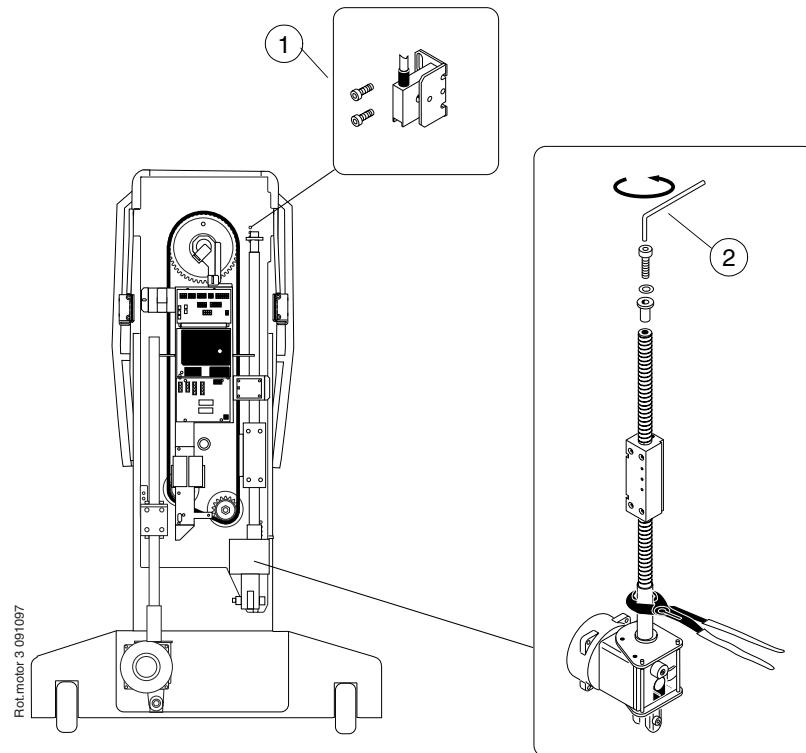

Figure H.34
- d) Mark the place of the rotation lower detector assembly with a pen and remove it from the telescopic column (see Fig. H.34).
- e) Remove the stopping collar of the worm-screw by opening the screw on the top of the worm screw (see Fig. H.34).
- k) Mark the place of the rotation lower detector assembly with a pen and remove it from the telescopic column (Fig. H.34, 1).
- l) Remove the stopping collar of the worm-screw by opening the screw on the top of the worm screw (Fig. H.34, 2).